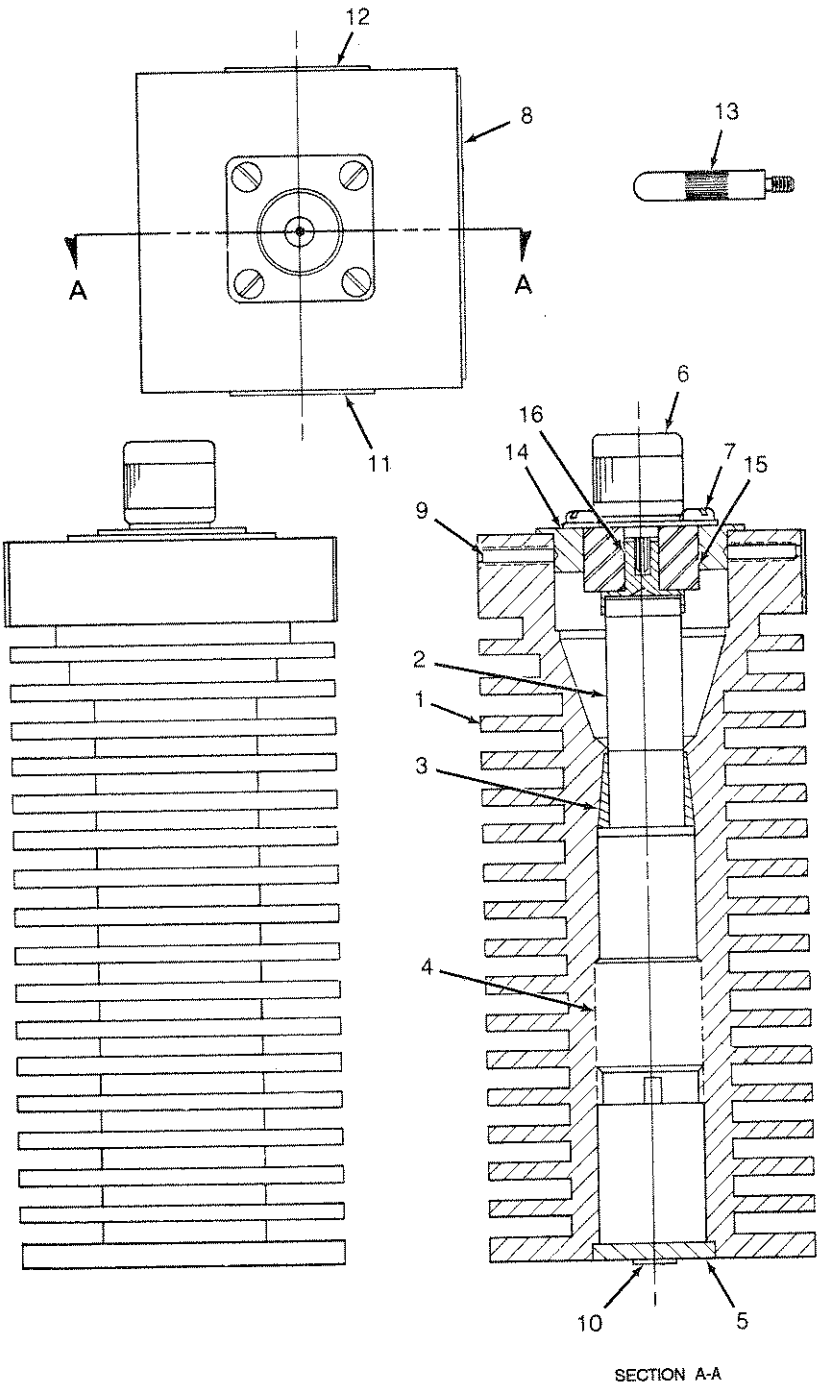

Figure 1. Model 8164-045 Termaline Load Resistor
Figure 1 is a parts illustration of the Coaxial Load Resistor. Along with the illustration is a parts list containing all of the replaceable components of the Coaxial Load Resistor. If a part is found to be defective, and is not contained in this list, it is not available for replacement and the assembly to which it belongs must be replaced. The parts list is broken down into the following column structure:
- a. INDEX NO. The numbers in this column identify the location of parts within an illustration. For example, the INDEX NO. 1-3 describes item 3 located within Figure 1.
LEGEND FIGURE 1